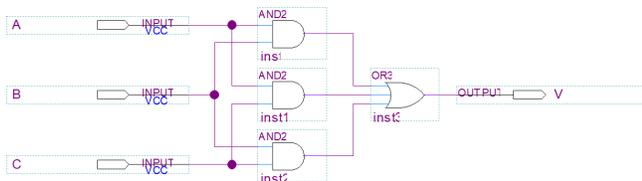

Figure 17. All pins renamed, and gates connected.
15. Using the Orthogonal Node Tools on the schematic toolbars Make the circuit connection for the Boolean equation. We should see the schematics similar to Figure 17.